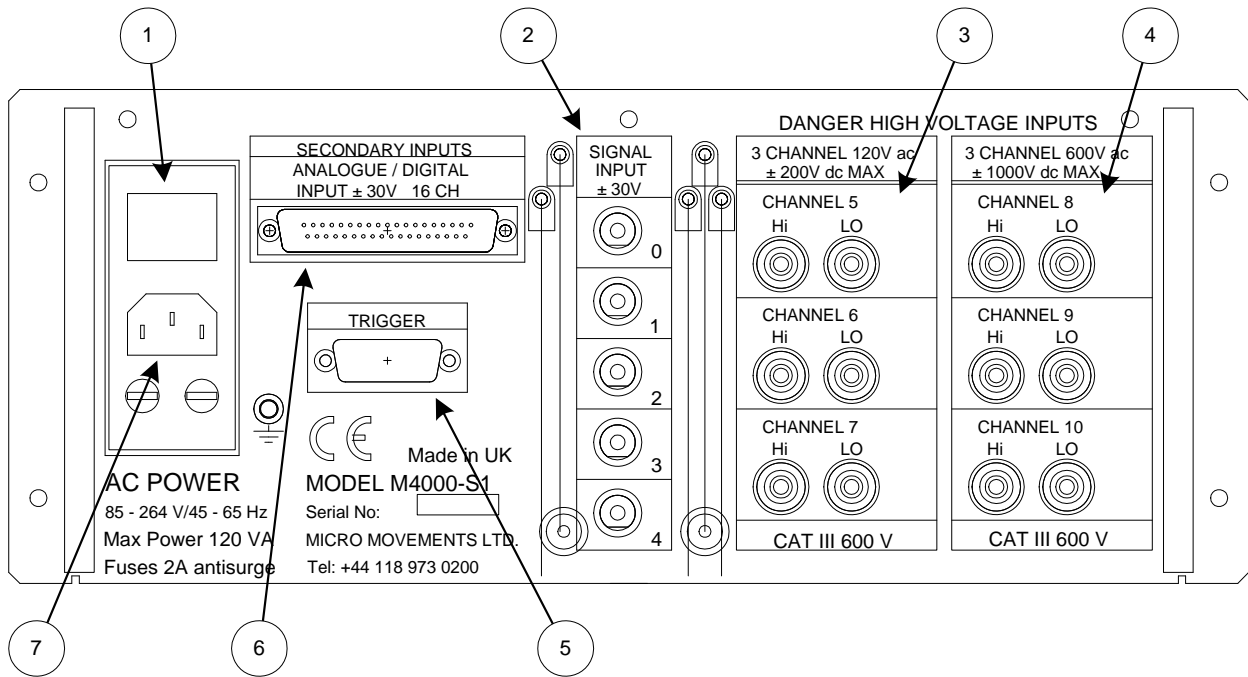

Figure 4. Rear view of the M4000-S1
Figure 4 above shows rear panel layout and marking. Details of the various items is as follows:
This module is factory fitted internally to the M4000-S1 and the input connector panel, shown below, is located on the rear panel as indicated by item 2 on Figure 4.
This module is factory fitted internally to the M4000-S1 and the input connector panel, shown below, is located on the rear panel as indicated by item 4 on Figure 4.
This module is factory fitted internally to the M4000-S1 and the input connector panel, shown below, is located on the rear panel as indicated by item 5 on Figure 4.
This module is factory fitted internally to the M4000-S1 and takes its inputs from signals applied to the 3 Channel Medium Voltage Input Module described in Section 2.2. The input connector panel, is shown in Section 2.2 and is located on the rear panel as indicated by item 3 on Figure 4. The input configuration for the use of the Dual Channel Demodulator is shown below.